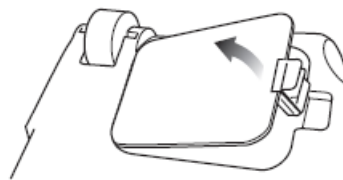

Fig. 13
3. Push in the locking tab and lift off the battery compartment cover. (Fig. 13)